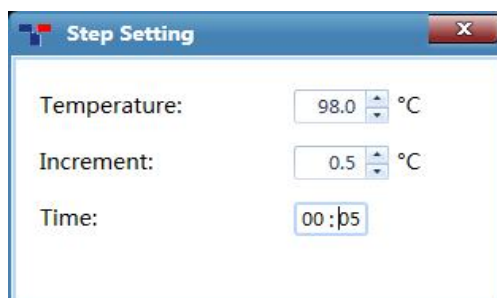

Figure D-5.6f. Step Setting Dialog Box – Melting Step
- V. **Melting**: the system will read the fluorescence signals after each temperature increment at the melting stage. If the current step is the last step of melting stage, user can set the temperature **Increment** in the **Step Setting** dialog box, as shown in figure D-5.6f.